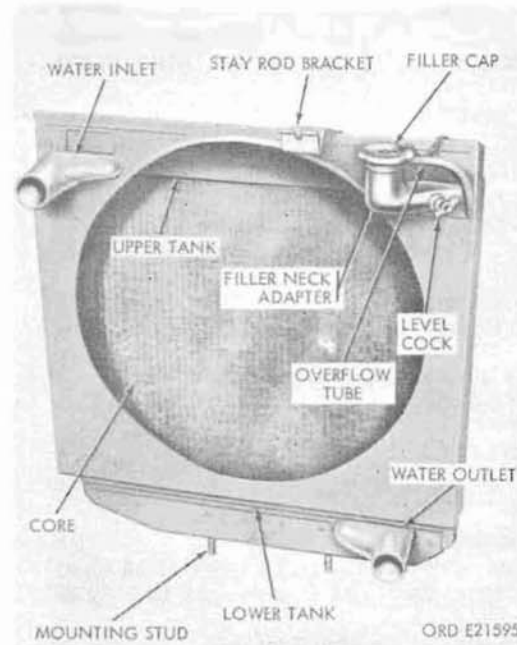
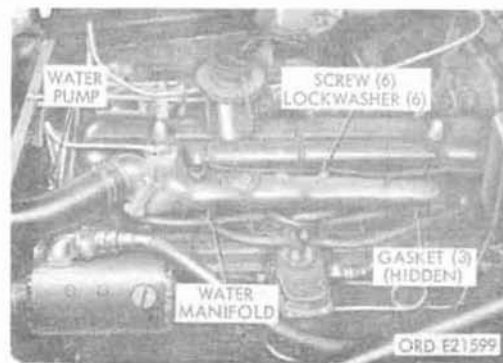

Figure 133. Radiator - rear view
Figure 137. Water manifold disconnect points
- (1) General. The sealed-type cooling system consists of the radiator, fan, drive belts, thermostat, water pump, temperature gage, pressure-type filler cap, thermostat bypass line, hose lines, and fittings connecting the radiator to the engine and water pump. Water is drawn from the bottom of the radiator by action of the water pump; it is circulated through the engine, and returned to the radiator through upper connections. Air is drawn through the radiator core by the fan and by motion of the truck, and cools the water to maintain correct engine operating temperature.
- (2) Radiator. The radiator (fig. 133) consists of a fin-and-tube core, upper and lower tanks, draincock, coolant level cock, pressure-type filler cap, and overflow tube. The radiator is mounted in a vertical position at the front of the engine, and may be replaced while the engine is in the truck. Later production vehicles are not equipped with the radiator upper shield.
- (3) Fan and drive belts. The five-blade fan is mounted on the fan-and-water-pump pulley hub, and is driven by two V-belts from the crankshaft pulley. The same belts also drive the water pump and generator. On older vehicles, the fan has been modified or changed to a later type to eliminate possible interference between the fan blades and radiator core.
- (4) Water pump. the centrifugal-type water pump (fig. 137) is mounted at the front of the engine, and forces coolant
87. Water Manifold (Fig. 137)
b. Installation. Install the 1/2-inch and 3/8-inch tube connectors in the tapped ports in the pump housing. Place the water pump in position on the cylinder block with a new gasket. Be sure the pump is in the correct position to align with the radiator outlet hose. Secure the pump to the cylinder block (fig. 137) with two hex-head screws and external-teeth lockwashers in the bossed holes near the pump